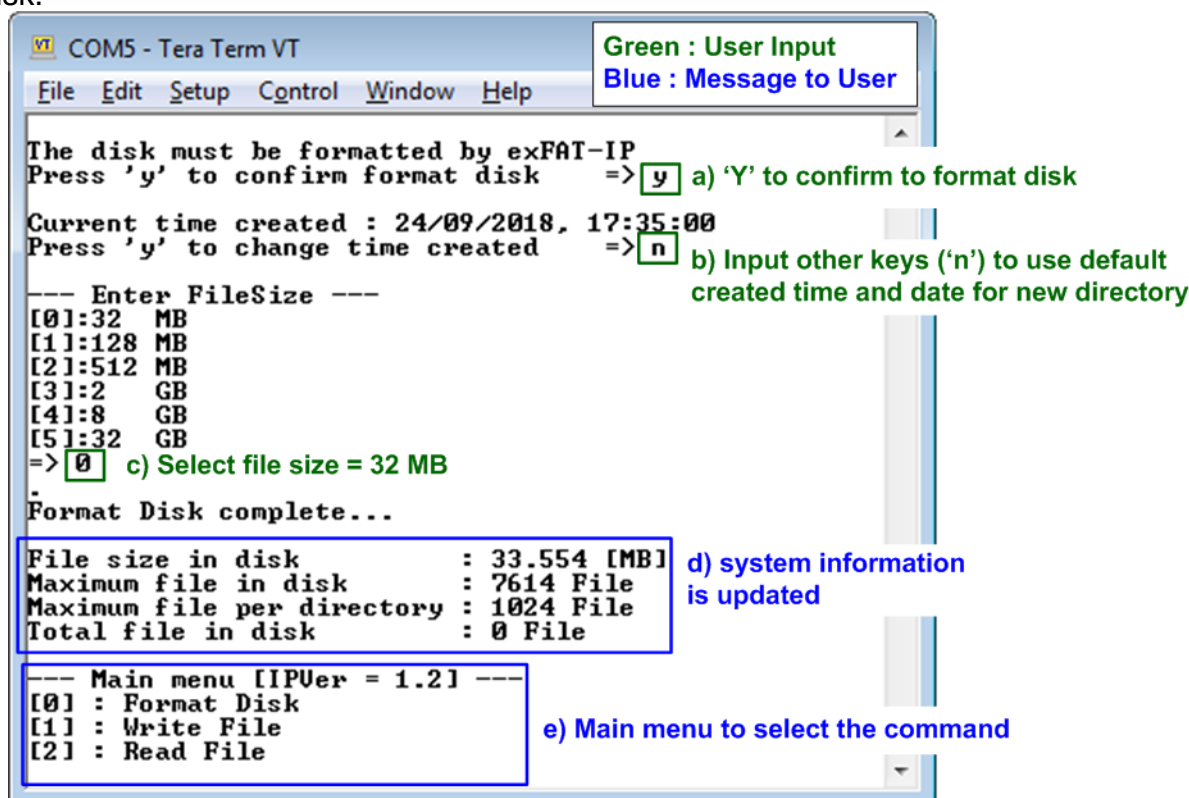
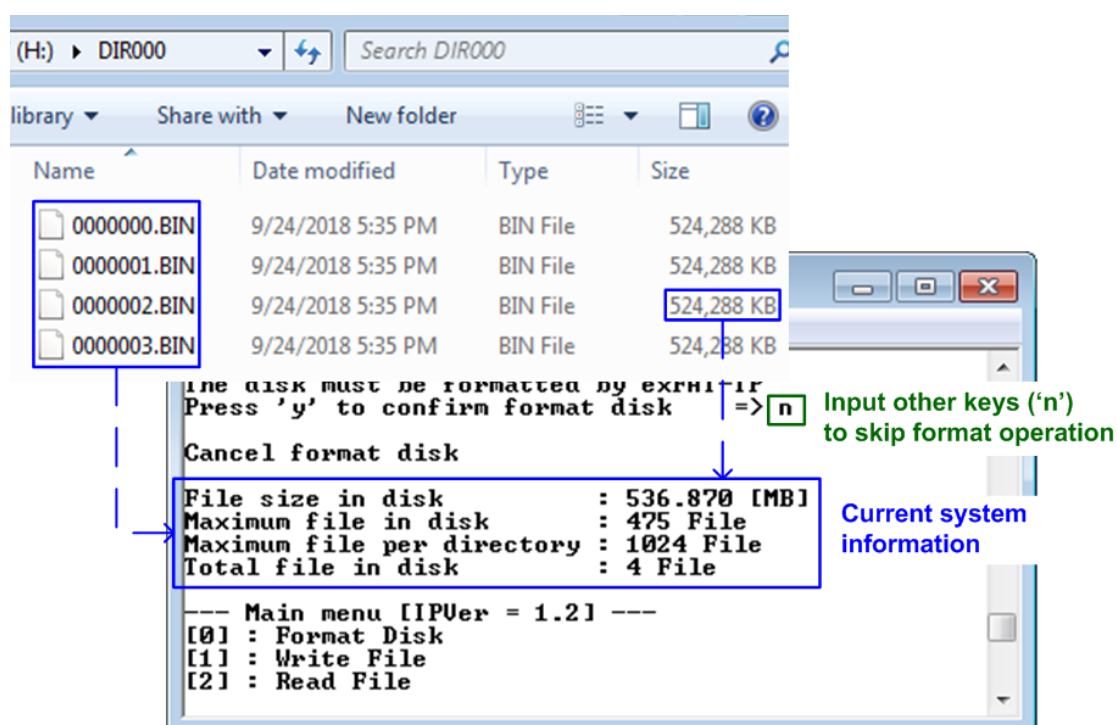

Figure 2-7 Initialization with format operation
Figure 2-8 Initialization without format operation
- Before running the test, "The disk must be formatted by exFAT-IP" is displayed. User input 'y' to format the disk when the disk is the new disk which has never been formatted by exFAT-IP. After running Format command, all data in the disk are deleted. The example to run Format command is shown in Figure 2-7 while the example to skip Format command is shown in Figure 2-8.